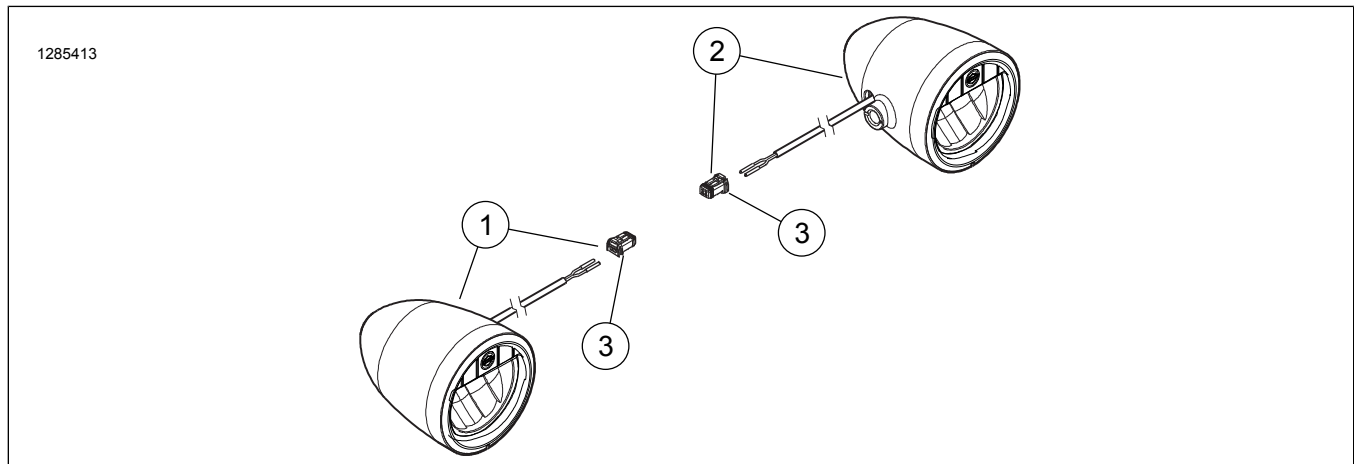

Figure 1. Kit Contents: LED Bullet Fog Lamp Kits
**NOTE:** Facing the fog lamp lens, with the Bar & Shield logo at the top, lamps are identified as "left" or "right" based on direction of wire lead exit from the lamp housing, as if the lamps were mounted **outboard** of the mounting bracket or engine guard. Harley-Davidson recommends **inboard** mounting of engine guard fog lamps. However mounted, the Bar & Shield logo **must** appear at the top of the lens. See Figure 1.